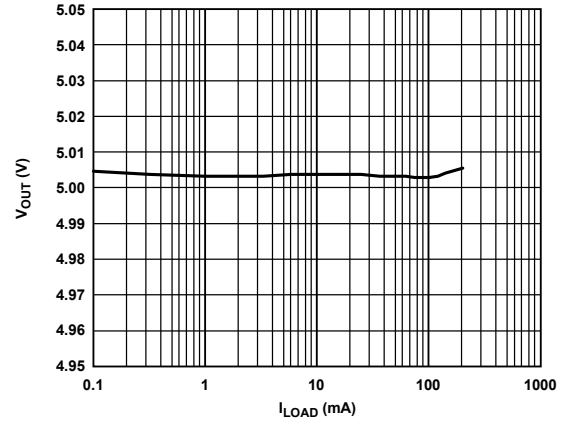

Figure 6. Output Voltage (V_{OUT}) vs. Load Current (I_{LOAD})
- Based on an endpoint calculation using 100 μA and 200mA loads. See Figure 6 for typical load regulation performance for loads less than 1mA.